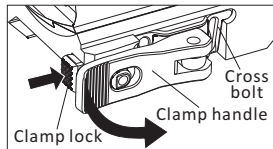

Fig 3-1
2. Designed with our patented nonlinear cam clamping system, no tools are required for attaching to a rail. Push locking button, lift up handle to loosen the locking bar. To mount sight on rail, push the handle down, locking button will automatically engage. The installation is complete.(fig 3-1)